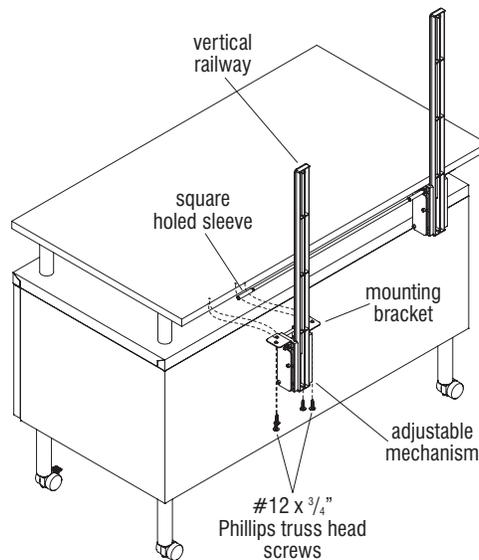

Figure 7
3. Locate the opposite-side adjustable mechanism and orient the mounting bracket up to the underside of the worksurface, then slide it over, inserting the adjustable mechanism rod into the square holed sleeve/ long connecting rod (installed in step 2, page 5), synchronizing the two mechanisms together. Secure the mounting bracket of the second mechanism to the underside of the worktop using four #12 x $\frac{3}{4}$ " Phillips truss head screws (Figure 7).